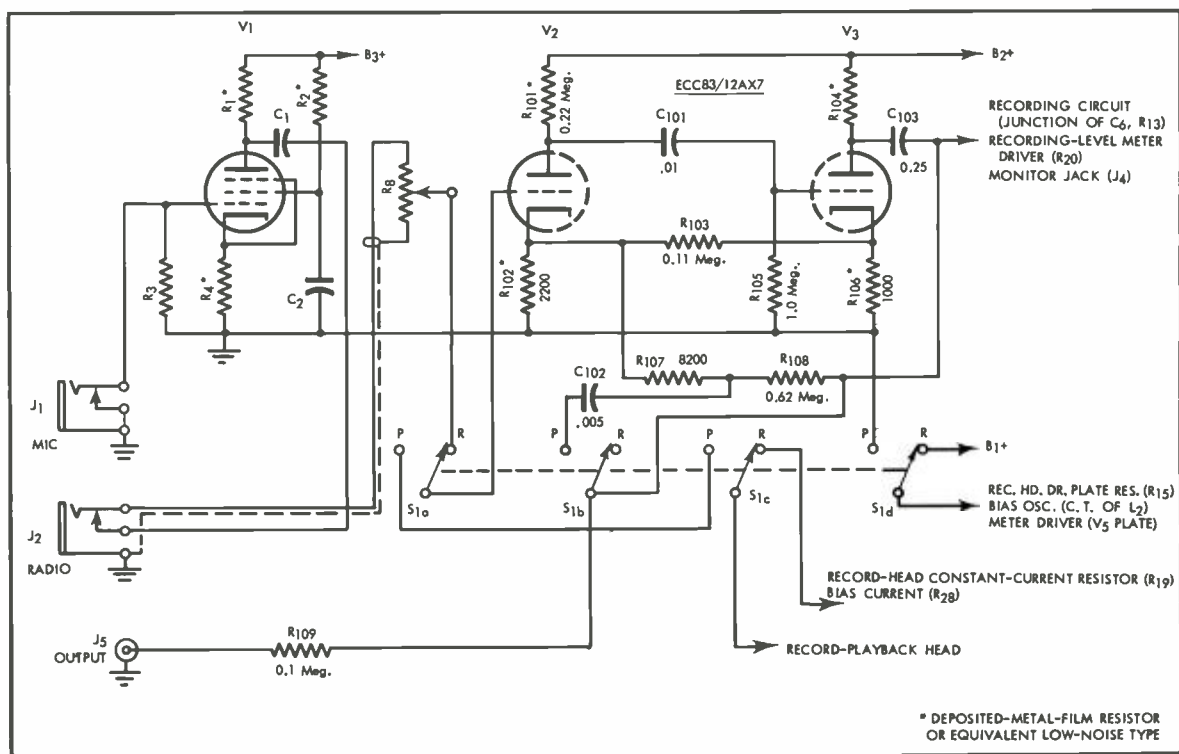

Fig. 2. When the amplifier is converted as described, it results in this arrangement.
The Brush BK-1090 record-playback half-track head was used. It is of laminated-core construction, which minimizes eddy current losses; has a nominal .00025 in. gap, permitting good response to 15,000 cps at 7.5 ips; and has two coil windings, which are hum cancelling when properly connected in series or parallel for the audio signal. It was found that the Brush BK-1090, with its windings in series for maximum playback signal, had greater drive requirements than the Dynamm head, so that more voltage gain was required in recording. Therefore V_3 was converted from a cathode follower into a voltage amplifier stage, as shown in *Fig. 2*; at the same time, equalization was changed from loss to feedback type, as will be discussed later in more detail.
Originally the plate of V_5 was permanently connected to B_+ so that the meter would operate in record as well as playback. This permitted comparison of playback levels among various tapes and enabled one to correlate audible distortion with recorded signal level. Unfortunately, if a signal were fed into the amplifier for recording purposes but switch S_7 was left in the playback mode, the meter gave an indication as though everything were set for recording. For this reason the writer accidentally failed on a number of occasions to obtain a desired off-the-air recording. Therefore it was decided to obtain B_+ for V_5 from the same point as the B_+ supply for the record-head driver V_4 and the oscillator V_6 , which are connected to B_+ only in the record mode. This point is the arm of S_{1d} , as shown in Fig. 2.
The circuit revisions in Fig. 2 meet the following objectives: (1) V_2 is converted from a cathode follower to a voltage amplifier to provide the greater gain needed in recording. (2) Output impedance is kept low through negative feedback, thus maintaining high-frequency response and permitting a reasonably long run of cable between the tape recorder and the next component in the audio chain for playback (usually a control amplifier). (3) The volume-control setting does not affect playback equalization; in the original circuit, which employed a lossy type of bass-
One of the problems in using feedback to obtain an equalization curve with a large amount of bass boost, such as the NARTB curve requires, is that at low frequencies the curve tends to lose its accuracy. That is, gain at the low end no longer varies exactly in inverse proportion to the amount of feedback. The feedback factor (ratio between gain without feedback and gain with feedback) is $1 + AB$, where A is gain before feedback and B is percentage of output voltage fed back. At high frequencies, the quantity AB is much greater than 1, so that the feedback factor consists largely of AB ; since A is a constant, it can be said that the gain ratio varies essentially with changes in B . At low frequencies, however, B is very small, and the quantity AB begins to approach 1. Therefore the value 1 can no longer be ignored in the expression $1 + AB$. And the response curve no longer varies exactly with changes in B . In order to keep the quantity AB significantly higher than 1 (at least four times as great) and thus produce accurate equalization, it would be necessary to increase A , that is, gain before feedback. This can be done by positive feedback. The 0.11-meg resistor R_{103} in Fig. 2 produces several db of positive feedback for this purpose.
Having to insert and remove the phone plug continually proved to be a nuisance. Therefore the revised switching arrangement of Fig. 2 was used, which enabled the phone plug to be left in J_2 during playback. V_1 is now permanently connected to the microphone input jack J_1 . Only V_2 and V_3 are used for playback; more will be said about this shortly. In playback, the volume control R_8 and the input jack J_2 are disconnected from the circuit by S_{1a} . Prior to this change, the gain control had always been left in maximum position during playback. Since the change, the lack of command over playback gain at the recorder (gain is governed by the control amplifier) has caused no inconvenience.
circuit. In the circuit of Fig. 2, however, deposited-metal-film resistors are used for noise reduction. These can be virtually as noise-free as wirewound resistors and about one-third as expensive, costing about one dollar each. Moreover, wirewound resistors have some residual inductance, although wound in a manner designed to cancel inductance. This may lead to pickup of hum or possibly to pickup of the audio signal and consequent positive feedback and oscillation in a high-gain circuit.
In Fig. 2, deposited-metal-film resistors are used as the plate and cathode resistances for V_1 , V_2 , and V_3 . Prior to use of metal-film types, deposited-carbons had been tried for V_2 and V_3 , as well as V_1 . But each time a metal-film resistor was substituted for a deposited-carbon one, there was a striking improvement, even in late stages. This is not to say that all deposited-carbon resistors are inferior to metal-film ones. In fact, the writer has been given to understand that there are some deposited-carbon resistors of foreign make which have excellent noise characteristics, closely approaching those of wirewounds. However, his personal experience with American-made resistors has been that deposited-metal-film ones have given far
Fig. 2. Complete schematic of transistor tester. R_1 may be a special 10-turn potentiometer, used with a 15-turn dial, although a single-turn four-watt type of pot may be used instead.
Having established the relationships which govern the operation of this circuit, a practical form of it can be designed as in Fig. 2.
A 500-ohm potentiometer (R_2 in Fig. 2), is used to adjust R_{min} to its exact value.
The rest of the circuit is designed so that any transistor inserted in the test instrument will operate at approximately 6 volts collector voltage and approximately 1 ma emitter current. Switch S_2 is included so that either PNP or NPN units can be tested, and switch S_2 changes the dial reading from "times 1" to "times 2." One word of caution: check to see that the transformer is wired with the same phasing shown in Fig. 2—otherwise the circuit will not oscillate. To keep the instrument as simple and inexpensive as possible, no detector or meter was incorporated in the circuit. Any detector, such as earphones, VTVM, or oscilloscope can be used to detect when oscillation just starts.